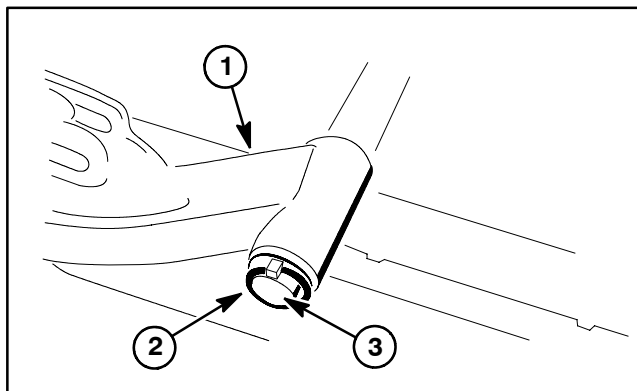

Figure 5
- A. Remove the lynch pin and washer securing the lift arm pivot yoke shaft to the rear lift arm (Fig. 5).
B. Make sure that thrust washer is positioned on the pivot yoke shaft. Insert the yoke arm shaft into the lift arm and secure it with the washer and lynch pin (Fig. 5).